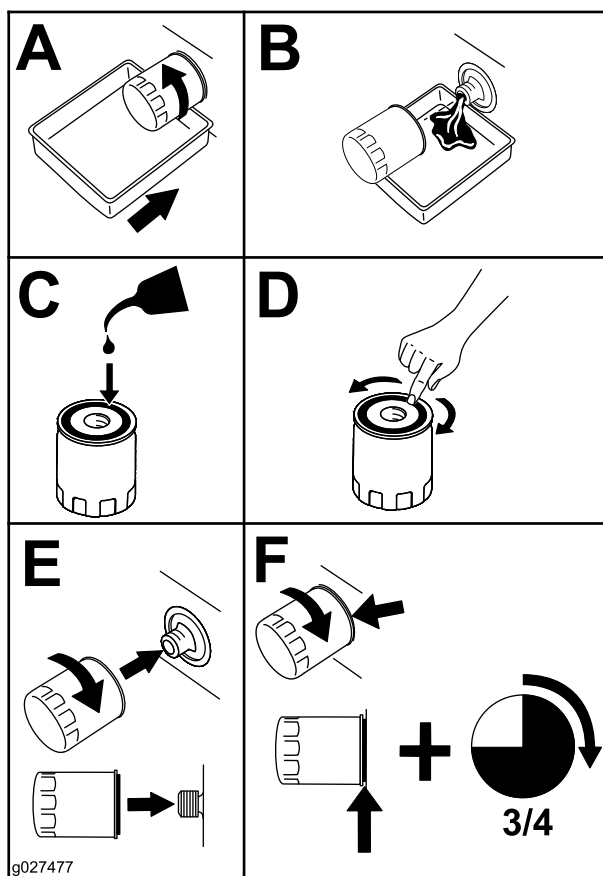

Figure 32
2. Change the engine oil filter (Figure 32).